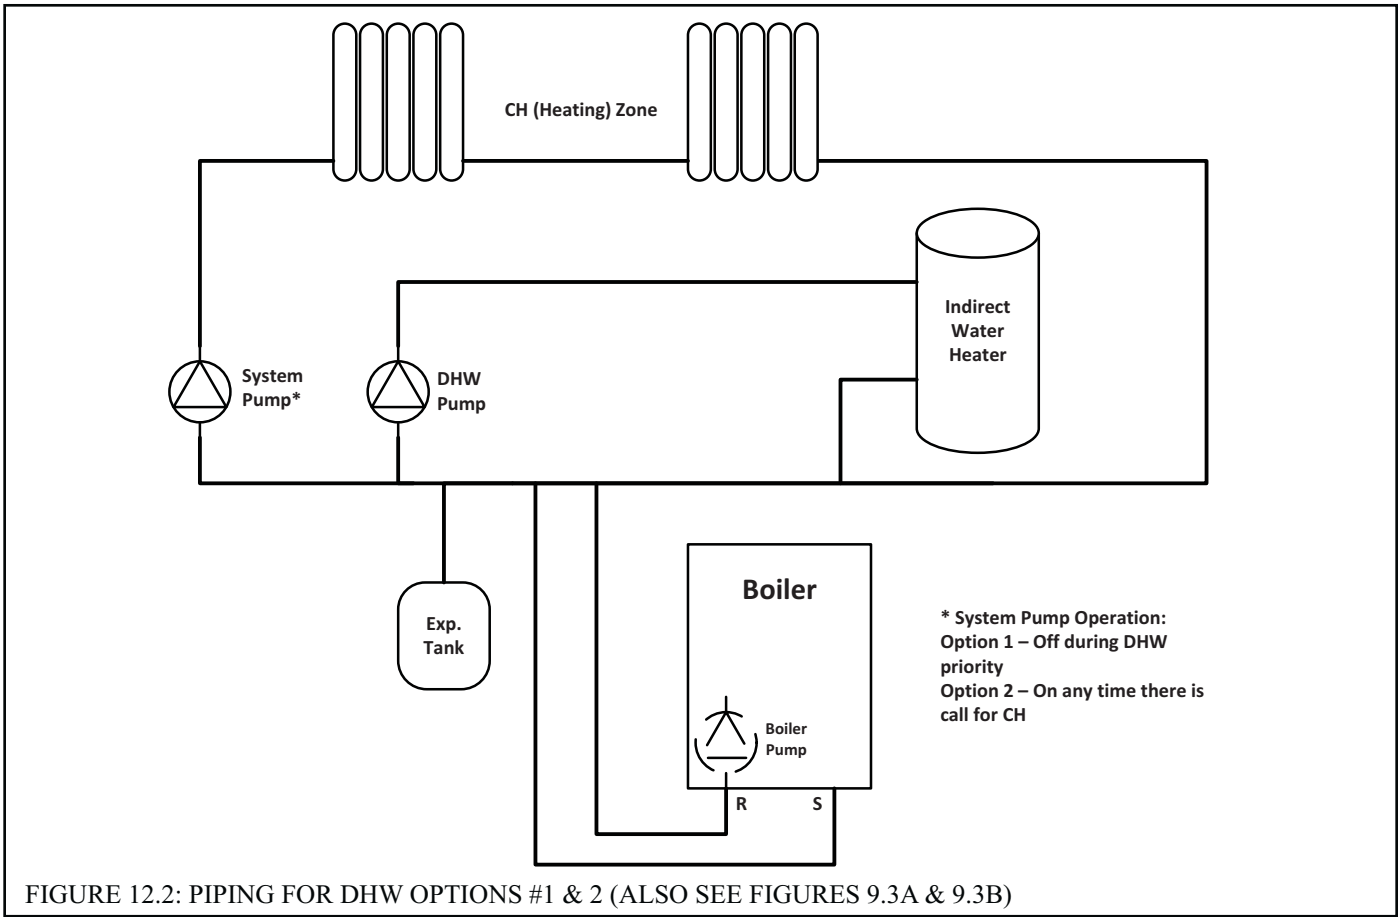

FIGURE 12.2: PIPING FOR DHW OPTIONS #1 & 2 (ALSO SEE FIGURES 9.3A & 9.3B)
**Option #1 (DEFAULT): System Pump Used for CH Only, DHW Priority Pumping** – An example of this system is shown in Figure 12.2, as well as in Figures 9.3A and 9.3B. When this option is selected, the system operates as follows:
- c) The system pump is used only to circulate water through the heating (CH) zone/s.
**Option #2: System Pump Used for CH Only, No DHW Priority Pumping** – An example of this system is shown in Figure 12.2, as well as in Figures 9.3A and 9.3B. The only difference between Option #2 and Option #1 is that Option #2 permits the system circulator to operate at the same time as the DHW pump when there is a call for both heat and DHW.